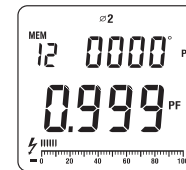

Figure 21
- Then press **SELECT** again to choose the second phase Ø2, see figure 21.